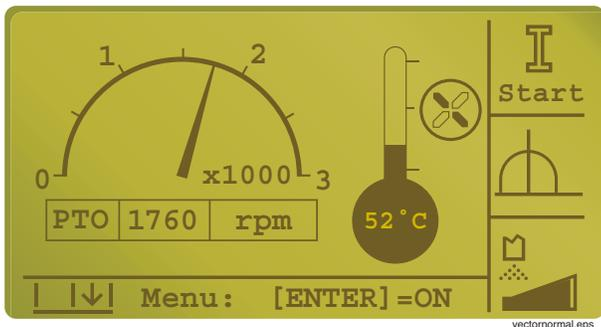

Figure 1
The start screen (Figure 1) will be displayed after initialization.
- When the control mode is selected, the display will indicate that with one of the pictures (Figure 2) on the right side, center of the start screen (Figure 1).
Start up the system by activating the "I" switch on the front panel of the controller (Figure 1 top).